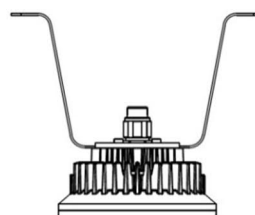

Figure 3
- ☞ Position the bracket holders and fix it by means of the provided M8 screws, 61.0 kgf-cm. (Figure 3)